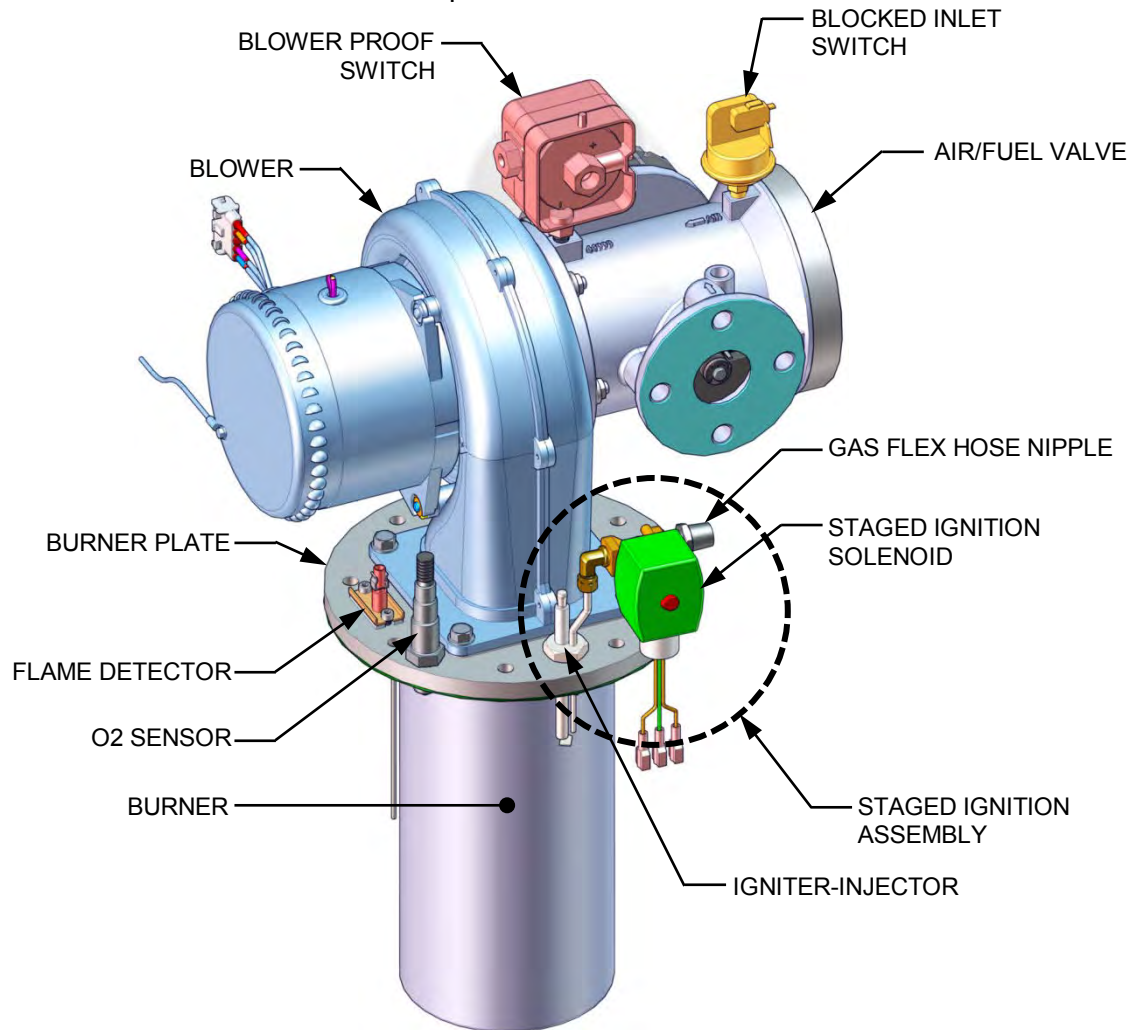
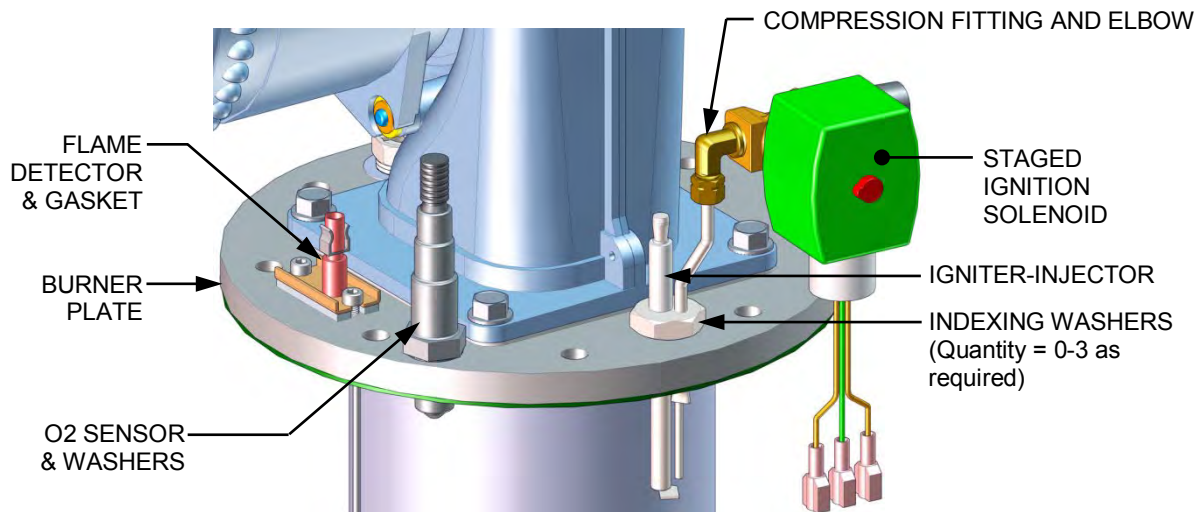

Figure 7-1: Benchmark Burner Assembly (Removed from Boiler)
Figure 7-2: Igniter-Injector & Flame Detector Mounting Details
The igniter-injector (kit P/N **58023**) is located on the burner plate at the top of the boiler. In addition to providing the spark required to ignite the burner, the igniter-injector also contains a gas injector tube which connects to the staged ignition assembly. Figure 7-1 shows the complete burner assembly removed from the boiler and indicates the location of the igniter-injector flame detector and other related components.
3. Disconnect the cable from the igniter-injector (Figure 7-1).
4. Refer to the partial exploded view in Figure 7-2. Using a 7/16" open-end wrench, disconnect the compression nut securing the gas injector tube of the igniter-injector to the elbow of the staged ignition assembly. Disconnect the staged ignition assembly from the igniter-injector.
The flame detector (P/N 24356-1) is located on the burner plate at the top of the unit (see Figure 7-1 and Figure 7-2). The flame detector may be hot. Allow the unit to cool sufficiently before removing the flame detector. Inspect or replace the flame detector as follows:
2. Remove the top shroud from the unit by grasping the top handle and lifting straight up. This will disengage the shroud from the four (4) pins in the side panels.
4. Remove the two (2) screws securing the flame detector to the plate (Figure 7-2 on previous page). The flame detector is secured to the burner plate with one #10-32 screw and one #8-32 screw.
The Lean Oxygen Sensor (P/N **61026**) is located on the burner plate at the top of the unit (see Figure 7-1 and Figure 7-2). The sensor and burner plate may be hot. Allow the unit to cool sufficiently before removing or replacing the O₂ sensor.
3. Disconnect the lead wire from the flame detector installed on the burner plate. See Figure 7-2.
4. Remove the two (2) screws securing the flame detector to the plate. The flame detector is secured to the burner plate with one (1) #10-32 screw and one (1) #8-32 screw.
7. Using a 7/16" open-end wrench, disconnect the compression nut securing the gas injector tube of the igniter-injector to the elbow of the staged ignition assembly (see Figure 7-2). Disconnect the staged ignition assembly from the igniter-injector.